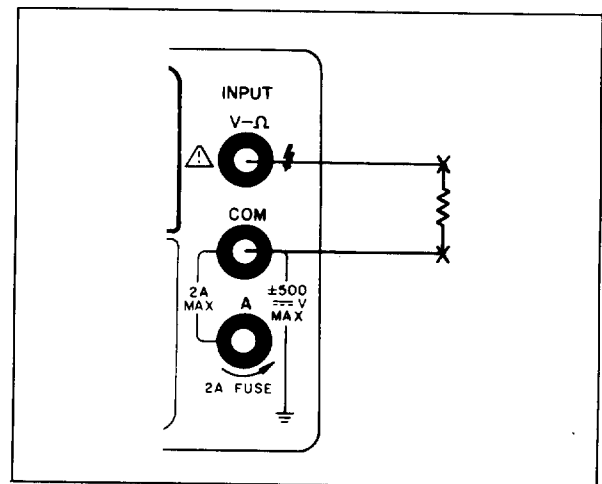

Figure 3-9. Resistance Measurement.
- c. Connect test leads from the Multimeter  $V\Omega$  (+) and COM (-) terminals to the resistance under test as shown in Figure 3-9.